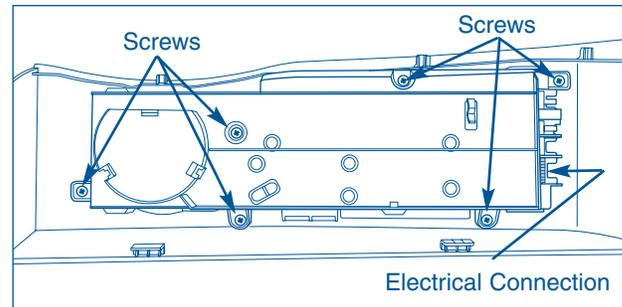

Figure 4-26.
2. Using a #2 square bit screwdriver, extract the six screws securing the control assembly to the console panel. Carefully lift the control assembly from the console panel. (See Figure 4-26)